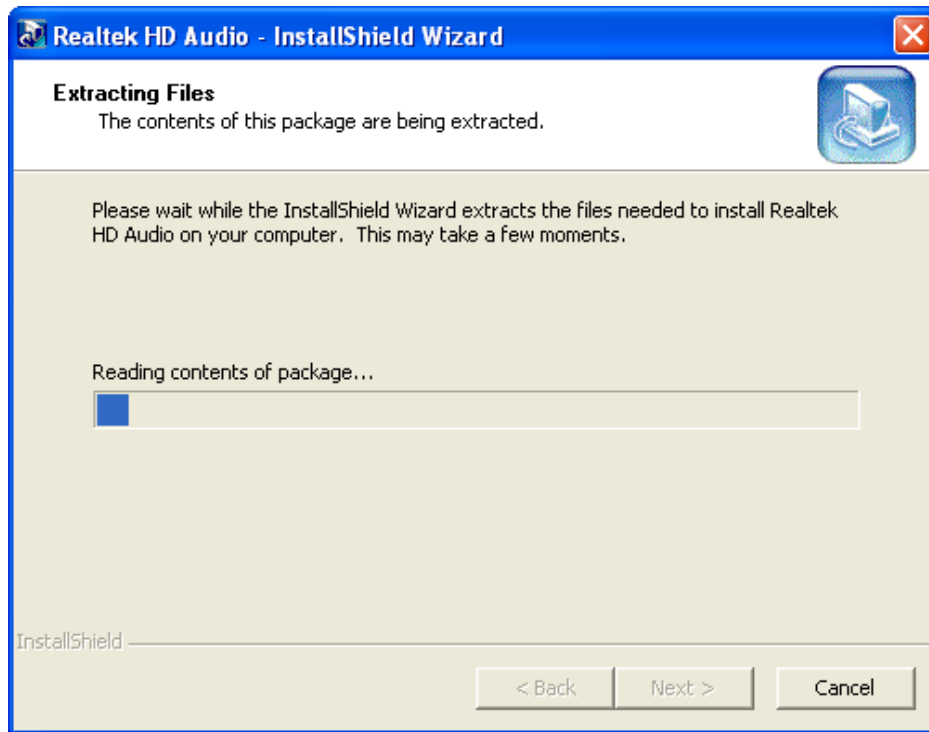

Figure 6-22: Extract HD Audio Driver Installation Files
Step 2: Installation files are extracted as shown in Figure 6-22.